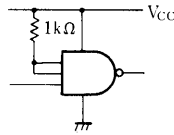

Fig. 13
- (a) Attach unused terminals to V_{CC} through an appropriate resistance. (Fig. 13)